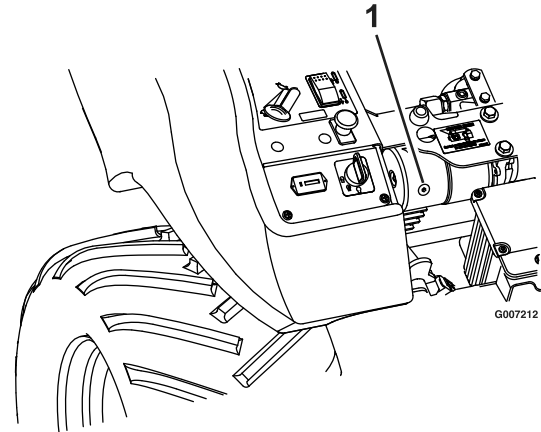

Figure 9
- Locate the auxiliary hydraulic power unit reservoir (see Figure 9).